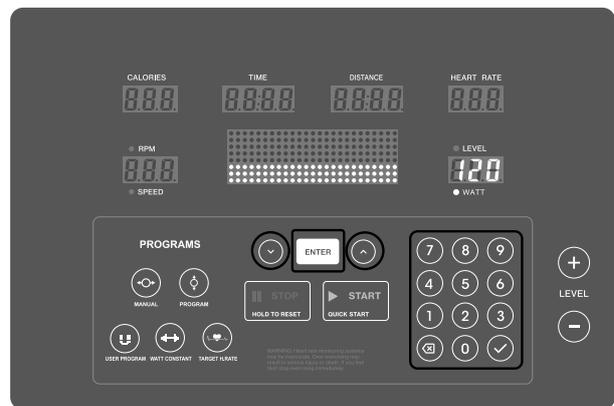

FIGURE 15
3. Adjust the desired watt value using the arrow keys (^/v) (Figure 15).